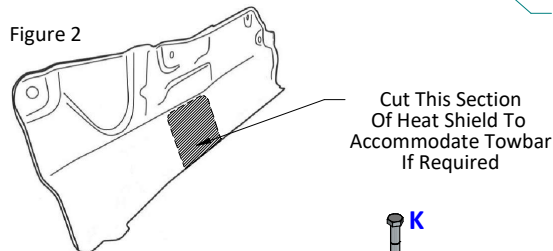

Figure 5
4. Loosely fix item **D** to item **A** using items **F** and items **G** to the position as shown in **Figure 5**.